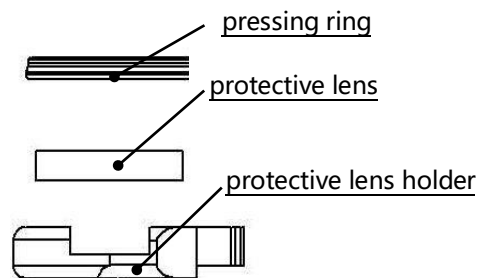

Figure 6.2 - structure of protective lens
- As shown in Figure 6.2, open the buckle, open the cover of protective lens, pinch the two sides of the drawer-type lens holder and pull out the base of protective lens;